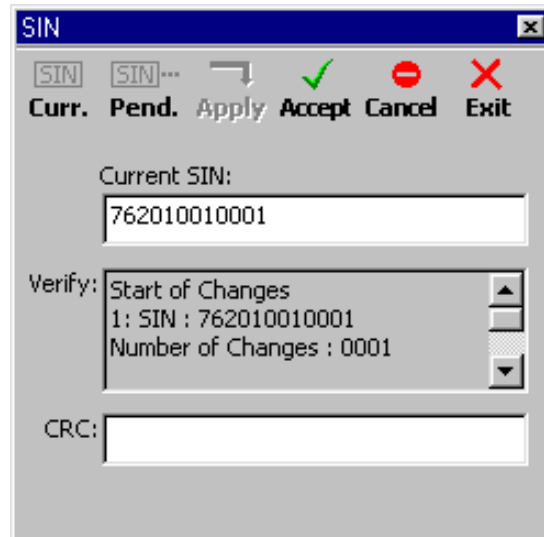

Figure 3-62
4. The **Apply** button is disabled as the GDT sends the changes to the GEO™ unit which processes the changes and then returns data that is displayed in the **SIN** window “Verify” list box (see figure 3-62).